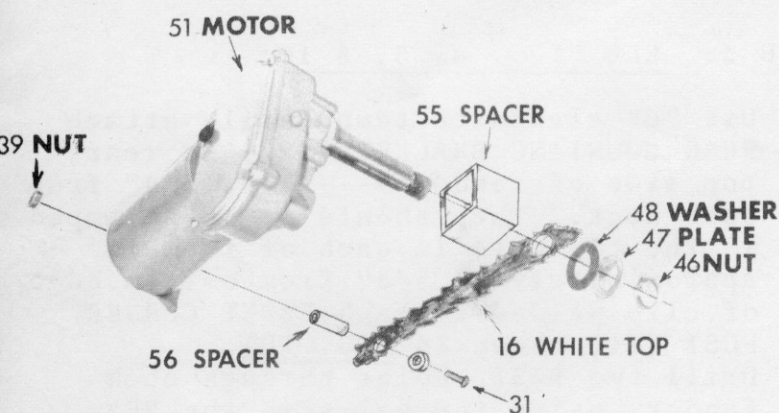

FIG. 7
- C. Attach wiper motor to the top by using spacers and bolts, etc. shown in FIG. 7; at the same time, connect one end of the supplied white wire to the motor, using screw (31). This wire will later "ground" the motor, necessary to it's proper functioning.